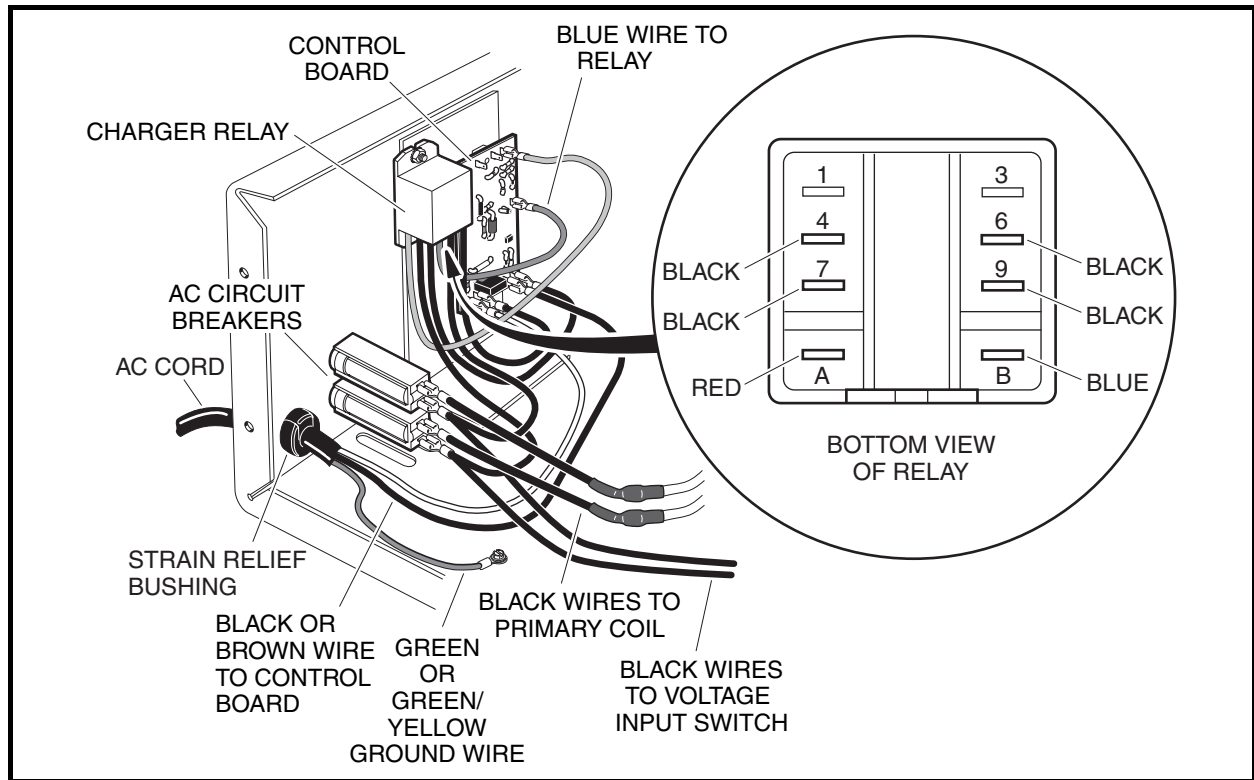

Figure 4-26 Charger Relay
4. Disconnect the black primary coil leads from the AC circuit breakers and the voltage selector switch (**Figure 4-26, Page 4-31 and Figure 4-27, Page 4-34**).
3. Disconnect all wires from the relay (**Figure 4-26, Page 4-31**).
Install in reverse order of removal. Connect wires as shown (**Figure 4-26, Page 4-31**). Tighten nuts securing relay to mounting bracket to 18 in-lb (2.0 N·m).
3. Disconnect the two black wires attached to top circuit breaker (**Figure 4-26, Page 4-31**).
3. Disconnect the AC cord black wire from the AC circuit breaker (**Figure 4-26, Page 4-31**).
5. Disconnect the AC cord green wire from the charger base (**Figure 4-26, Page 4-31**).
1. Insert the black, white, and green leads of the new AC cord into the charger through the hole in the charger face (**Figure 4-26, Page 4-31**).